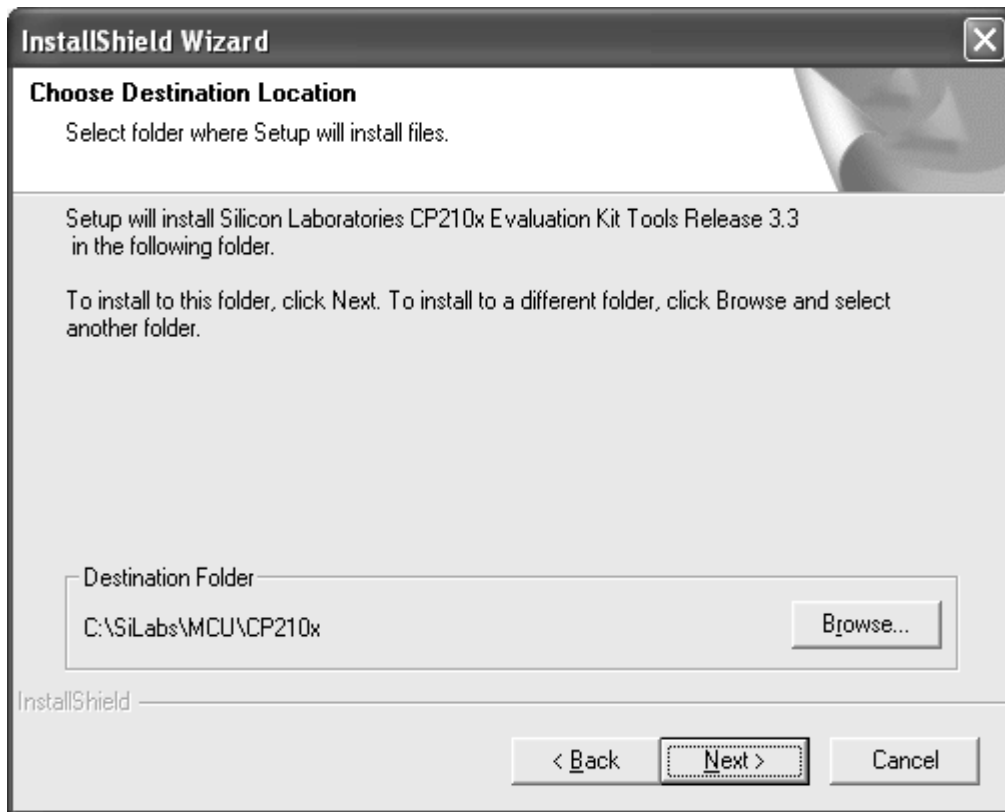

Fig. 30 Choose Destination Location
(4) The "Choose Destination Location" screen shown in Fig.30 appears. **C: \SiLabs\MCU\CP210x** is selected by default.